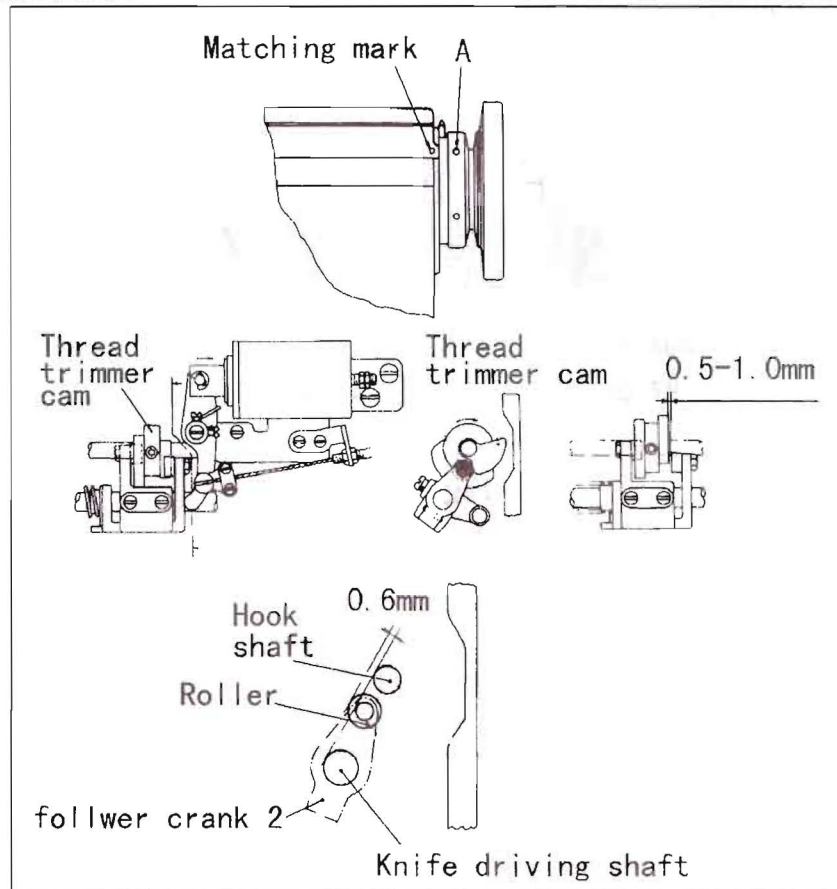

**Fig.37**
4) Installing the thread trimmer solenoid unit (Fig.37):